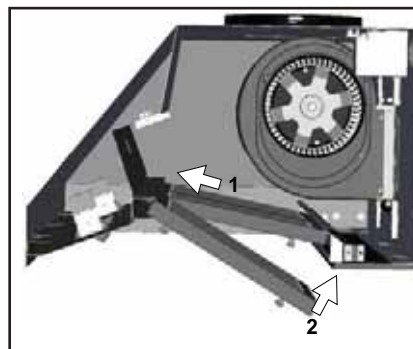

FIG. 5
**Installing the Baffle Filters, FIG 5:**